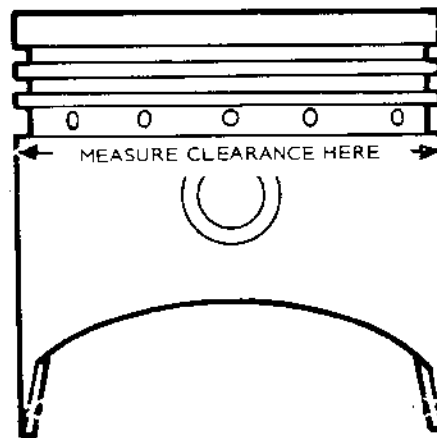

FIGURE 33. MEASURING PISTON CLEARANCE
4. Measure the piston to cylinder clearance, as shown in Figure 33, to be sure the total clearance follows specifications.